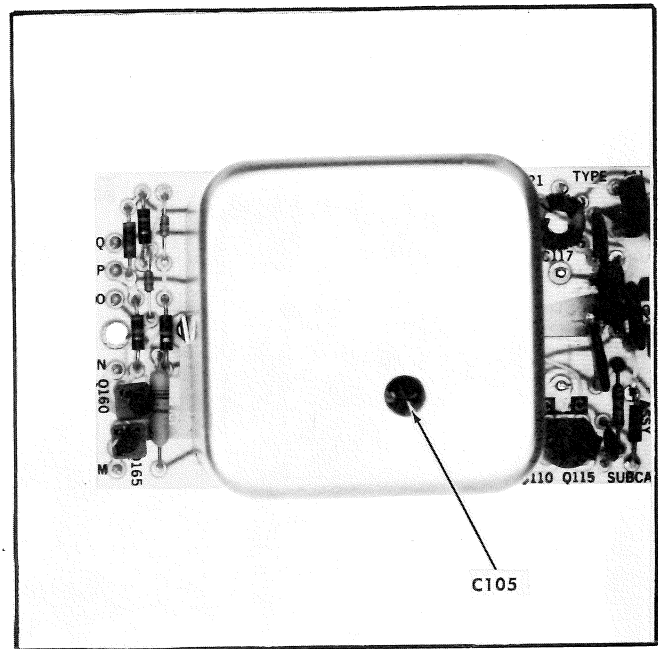

Fig. 5-4. Subcarrier Output board; oscillator adjustment location.
d. ADJUST—C105 (see Fig. 5-4) counterclockwise while observing the digital frequency counter readout; frequency must be adjustable to at least 4.43362375 MHz (5 Hz above center frequency).
f. ADJUST—C105 (see Fig. 5-4) for the least amount of drift.